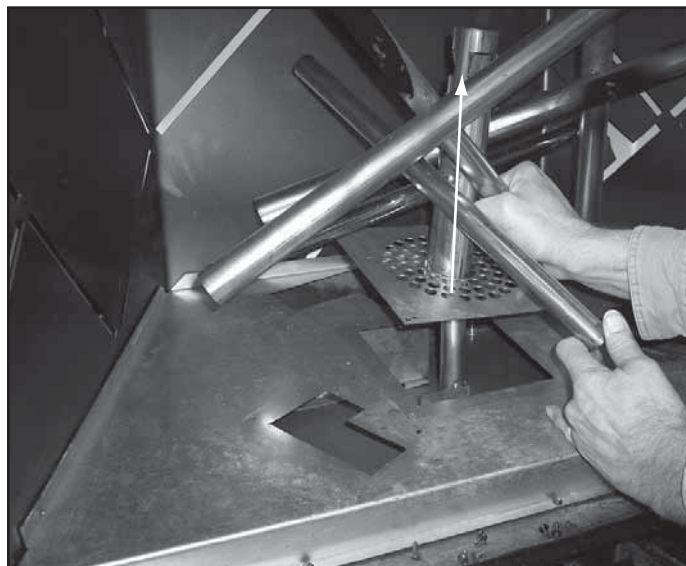

Figure 15.6 Remove Decorative Steel Log Assembly
- Remove decorative steel log assembly by removing 3 screws, lifting up and out (Figure 15.6).